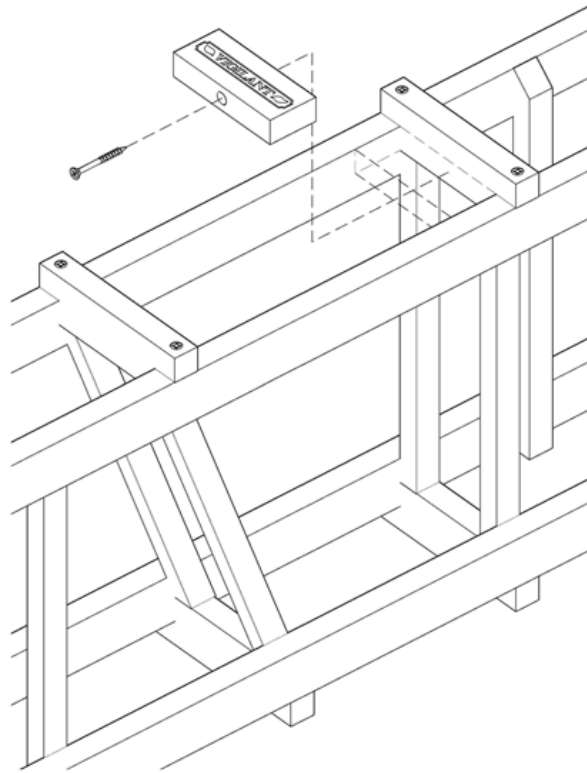

**Figure 2**
5. At this point both ladders should be attached to the first spacer bar (**Figure 2**). Set another spacer bar over the next spacer slot location. Attach using the same method as in steps 2 and 3.